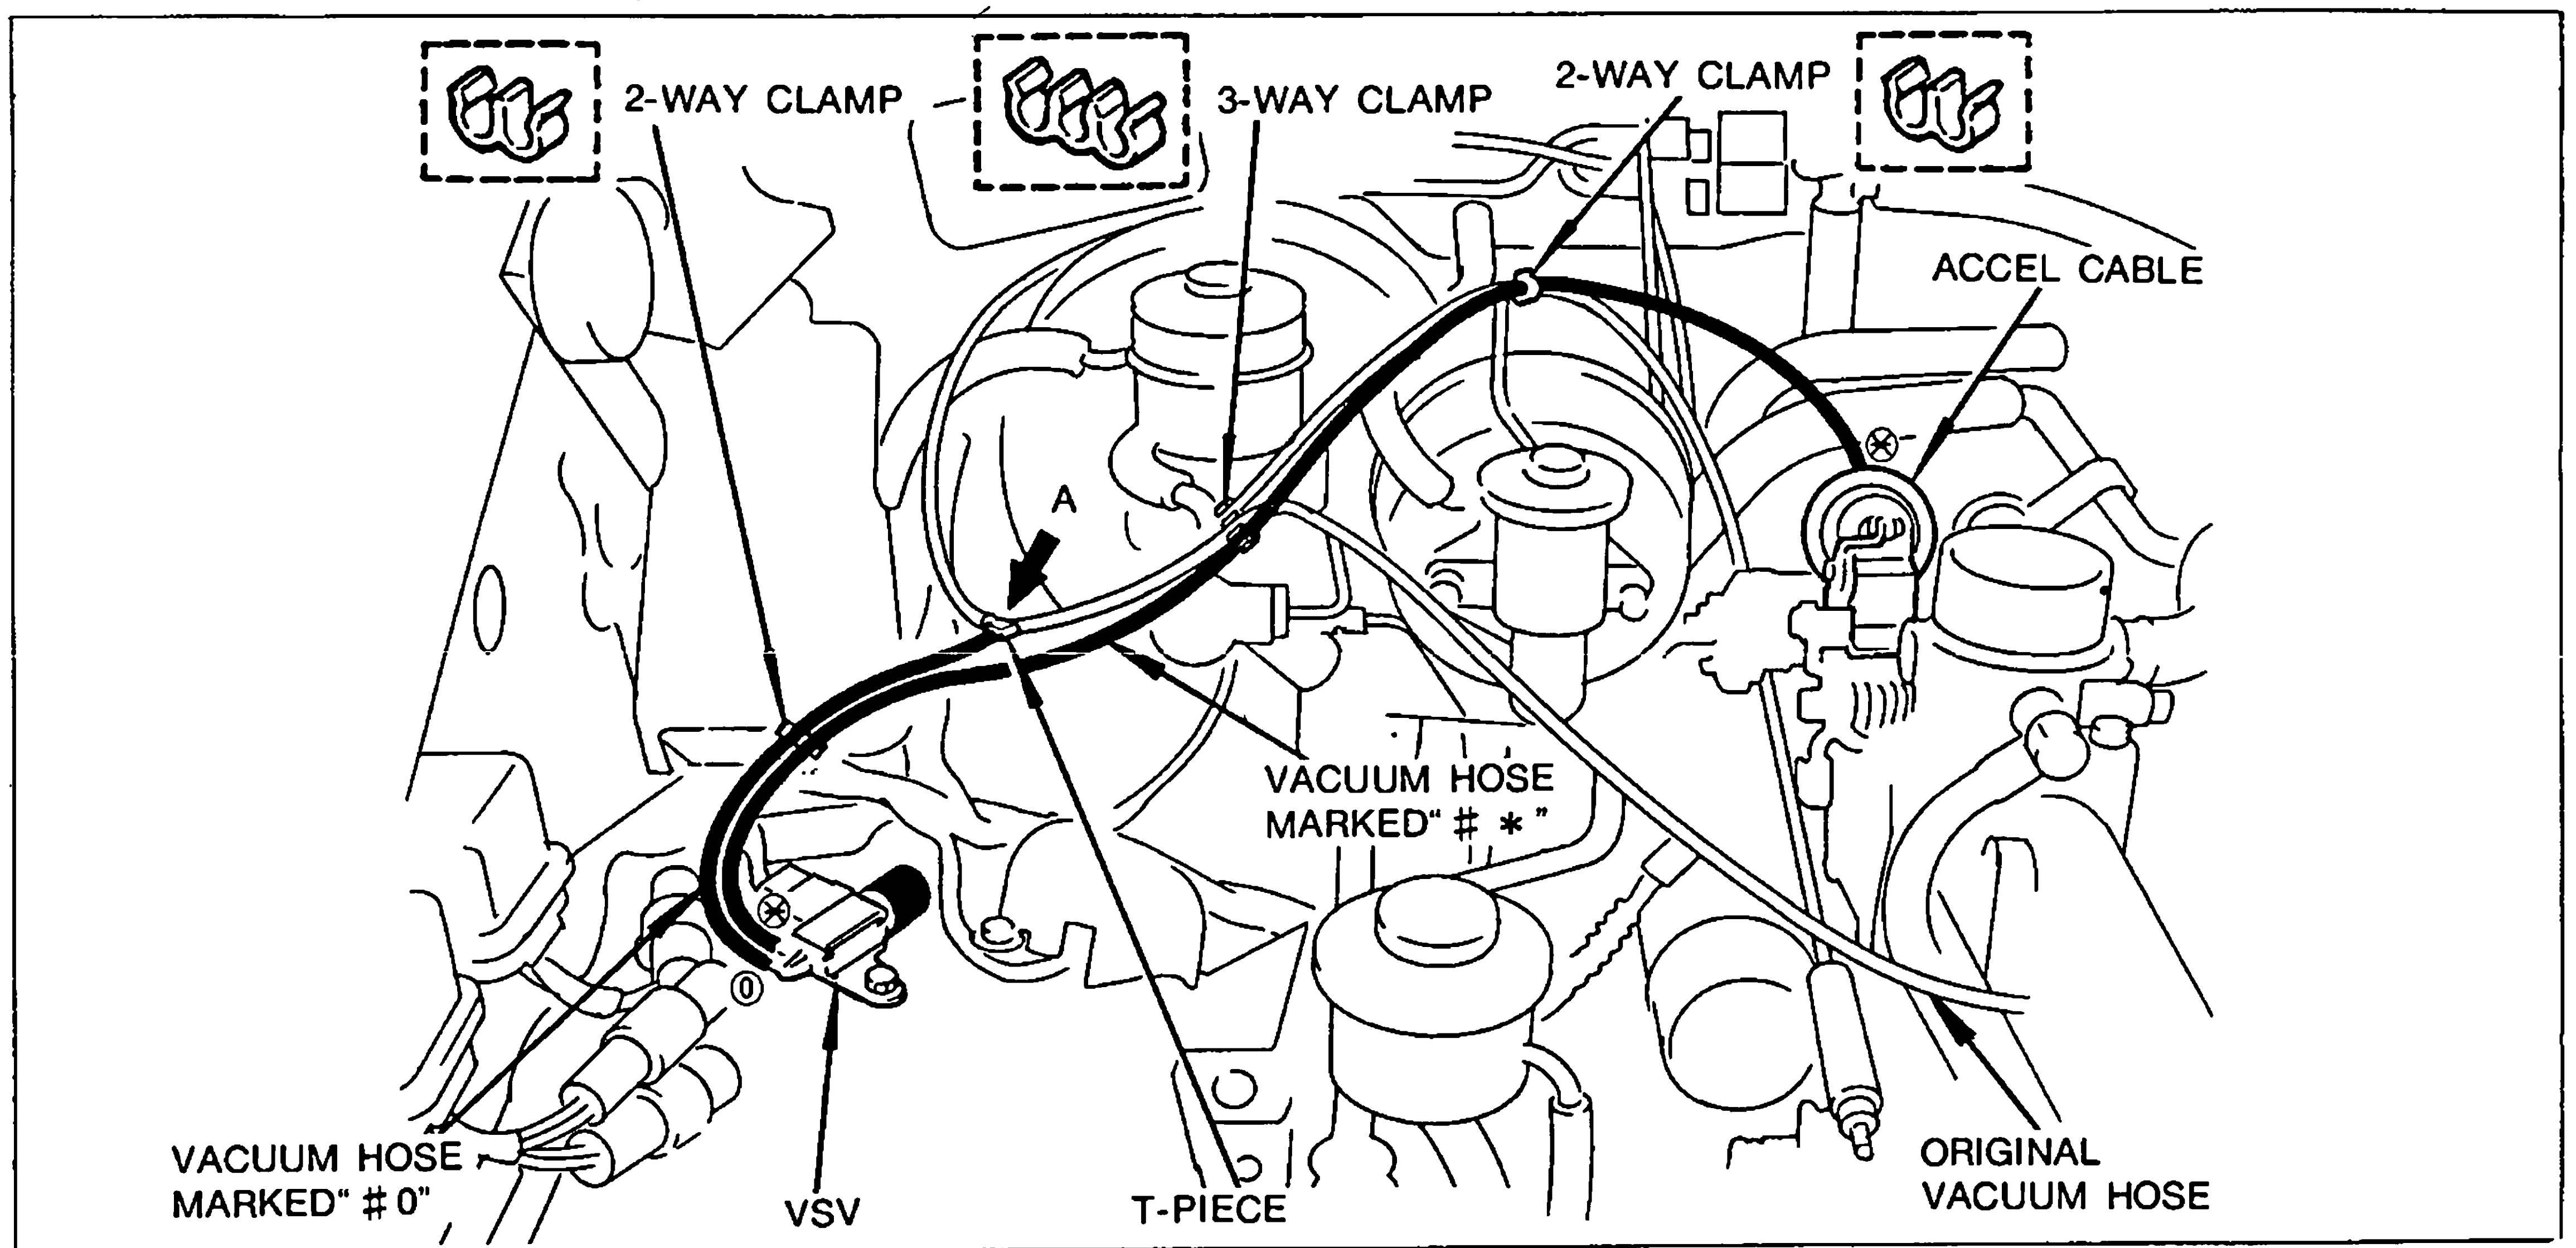

Fig.74
(4) VACUUM HOSE (M/T MODEL WITH 4 × 2 SELECTOR ELECTRICAL TYPE)
- (a) Cut the original vacuum hose at "A" as shown in Fig. 74.
- (c) Connect the original vacuum hose and vacuum hose marked "#0" using a T-piece as shown in Fig. 74.
- (e) Fasten the vacuum hose using the three clamps as shown in Fig. 74.